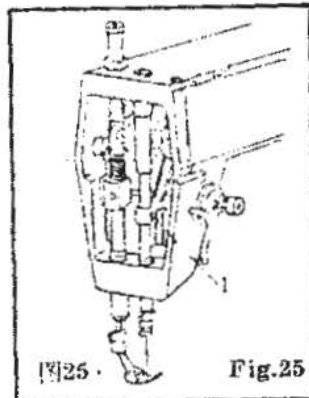

图25 Fig.25
- (1) 旋松旋梭的三个固定螺钉；
- (2) 转动上轮，使机针下降到最低位置后上升 2.2 毫米；
- (3) 转动旋梭，使勾线尖到达机针的中线处；
- (4) 松开机针连接轴紧固螺帽“U” (图 25)；
- (5) 调整机针的高度，使旋梭勾线尖高于机针孔上边 2 毫米；最后将全部紧固螺钉旋紧。
- (1) Loosen the three set screw of rotary hook.
- (2) Turn balance wheel to lower than the needle in the lowest position and then raise it 2.2mm.
- (3) Turn the rotary hook to make the looping point on the position of the midline of needle.
- (4) Loosen the set screw of needle bar link shaft (Fig. 25)
- (5) Regulate the height of needle bar to make the looping point 2mm higher than the hole of needle.